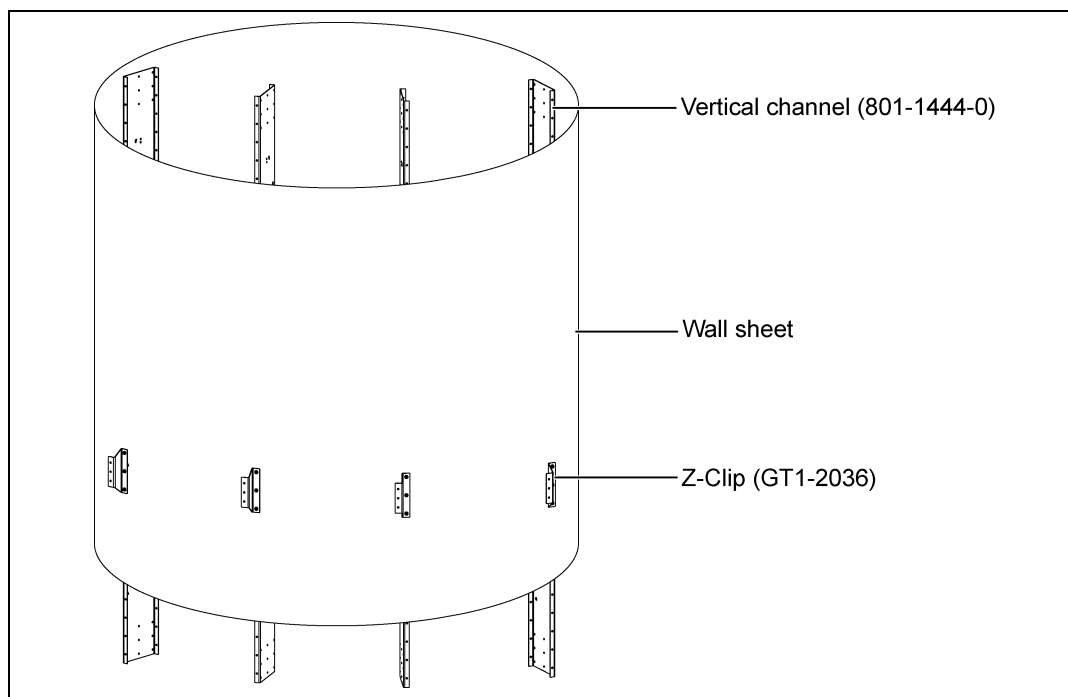

Figure 6A Offset Z-Clip Installation
1. Bolt Z-clips (GT1-2036) to vertical channels (801-1444-0). The Z-clip can be installed on each vertical channel as wall sheets are installed using 3/8"-16 x 1" JS grade 8 or grade 8.2 bolts (S-7485) and 3/8"-16 ZN grade 5 nuts (S-968). (See Figure 6A, Figure 6B below, Figure 6C and Figure 6D on Page 49.)